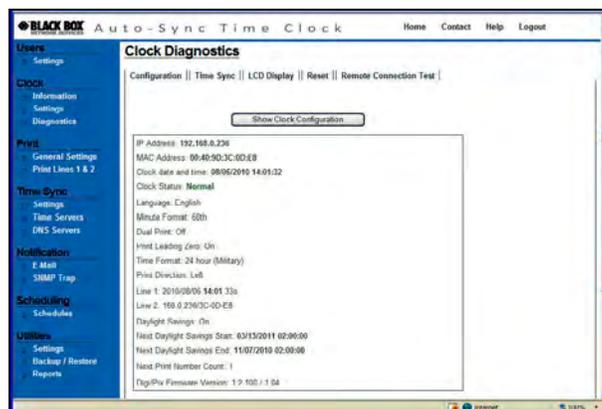

Figure 6-1. Show Clock Configuration.
2. Click on the  button to display the Web clock configuration information (see Figure 6-1).
NOTE: This information is read only (non-editable) and displays the clock settings, plus the current status of the clock. Any clock errors such as **E4 Prt** printing error would appear in **red** on this screen (see Figure 6-1).